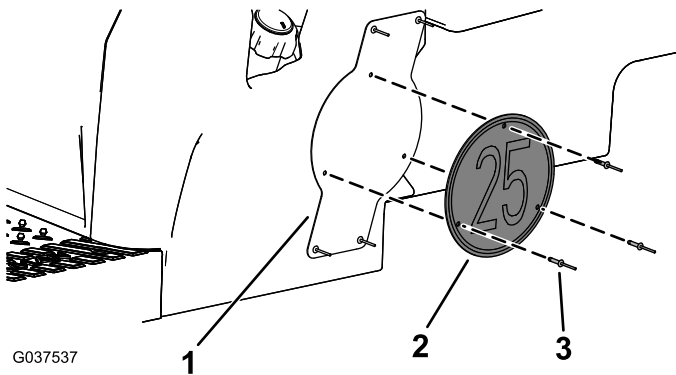

Figure 13
8. Install the speed plate to the plate-mount bracket using 3 pop rivets (3/16 x 0.92 inch) as shown in Figure 13.